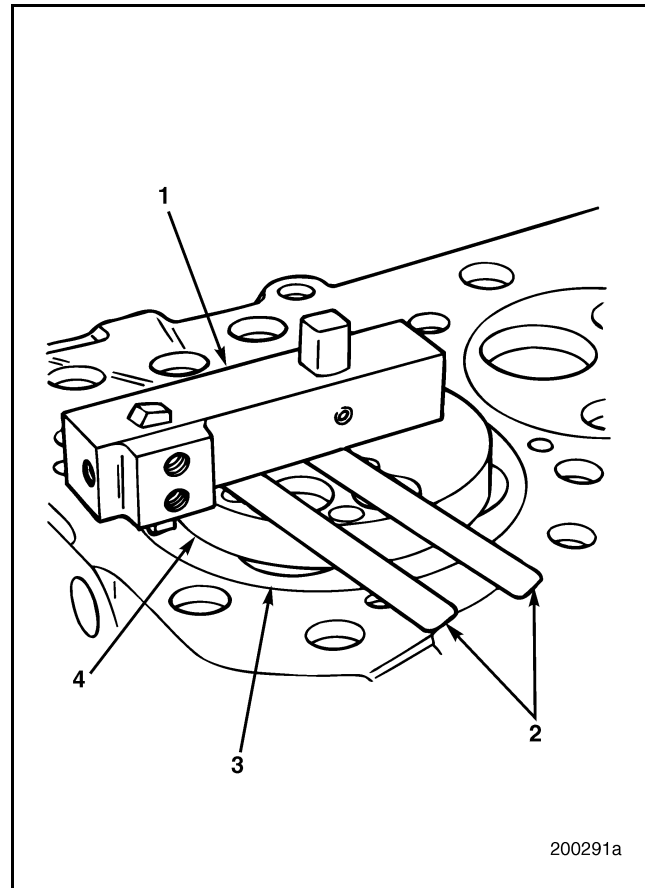

Figure 184 — Setting Cutter Depth
4. Install the cutter head J 37719 (1) on the cutter base (4) as shown in Figure 184.
- a. If a fire ring groove (3) is visible, check the existing fire ring groove depth dimension with depth gauge J 26948. The difference between 0.008 inch and the actual remaining depth of fire ring groove is the amount to cut. Insert two appropriate thickness gauges (2) between the cutter head (1) and base (4).
- b. If a fire ring groove (3) is not visible, insert two 0.008-inch thickness gauges (2) between the cutter head (1) and base (4).